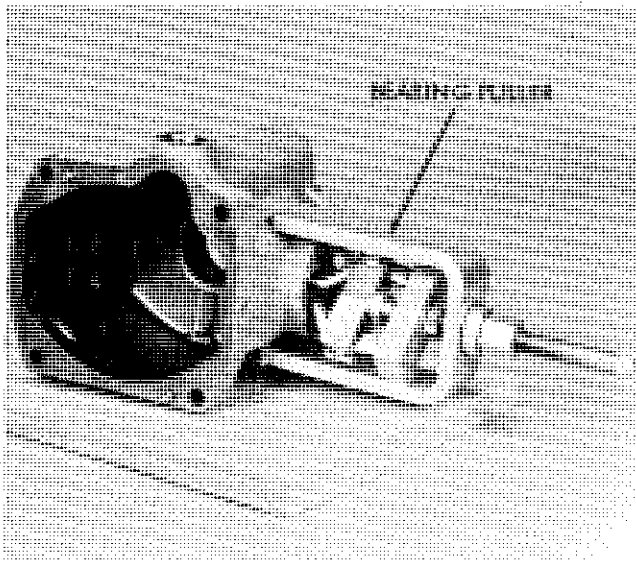

Figure VI-35. Removal of Pintles and Yoke
- e. Once the yoke and pintles are removed, it is possible to pull the pintle bearings, as required, after pintles and yoke are removed as shown in Figure VI-35.